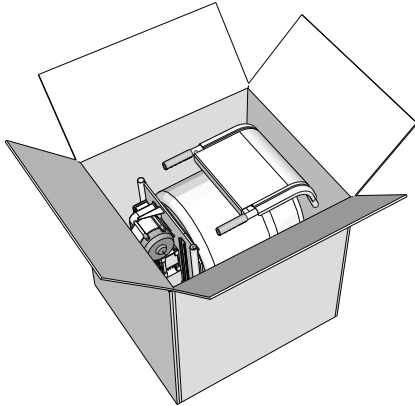

Figure 5. Shipping Container
1. Remove the mixer drum and associated components from the packing container (Figure 5). The following components are enclosed in the shipping container.
- Wheels (2), Cotter Pins (2), Washers (2)